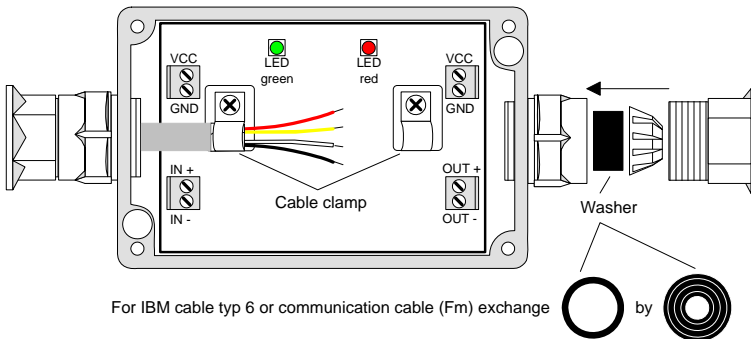

Fig. 3: Cable entries → essernet® repeater
- Insert screwed cable gland (ref. to Fig. 3)